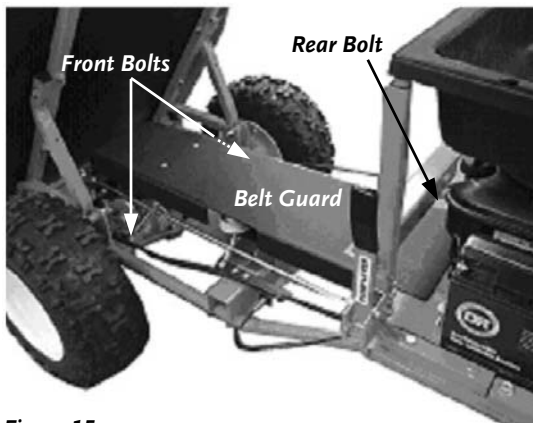

Figure 15
3. Remove the Belt Guard by removing the two (2) Bolts at the front using a Phillips screwdriver and 3/8" wrench. Remove the single Bolt at the rear using a 7/16" socket (**Figure 15**).